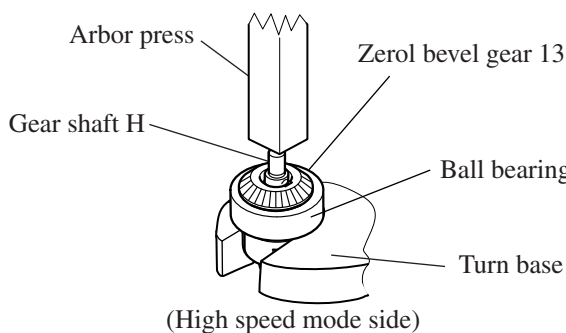

Fig. 6
Put the gear assembly on the turn base of arbor press, and press gear shaft with arbor press. So, zerol bevel gears can be separated from gear shafts. See Fig. 6 and Fig 6A.
A. Use No. 1R029 "Bearing Setting Pipe" as illustrated in Fig. 6 and Fig. 6 C, when assembling zerol bevel gears.
B. The round portion of key 4 has to be faced to the zerol bevel gear assembling side as illustrated in Fig. 6 B.
C. Do not forget to assemble flat washer 30 between zerol bevel gear 19 and ball bearing 6203DDW as illustrated in Fig. 6 A.